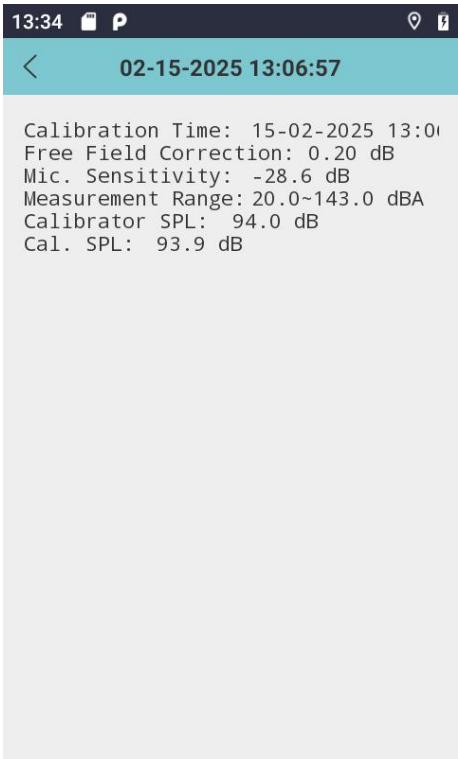

Figure 6.85
- 5) Details Page: Tap a record to view detailed information (Figure 6.85), including: